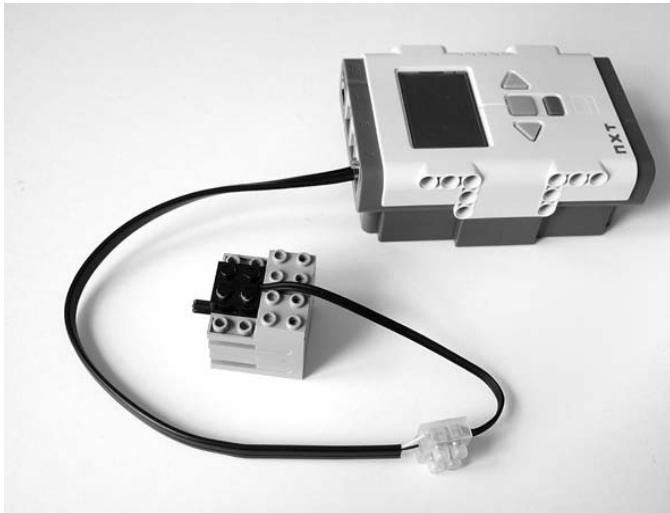

Figure 11-23. NXT driving a 9V RCX motor
6. The final cable is illustrated in Figure 11-23: it connects an RCX motor to the NXT.